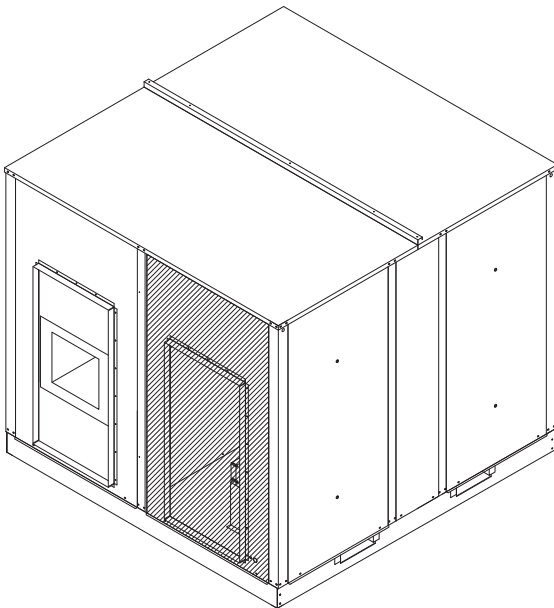

Figure 2
1. Remove panel highlighted in **Figure 2**